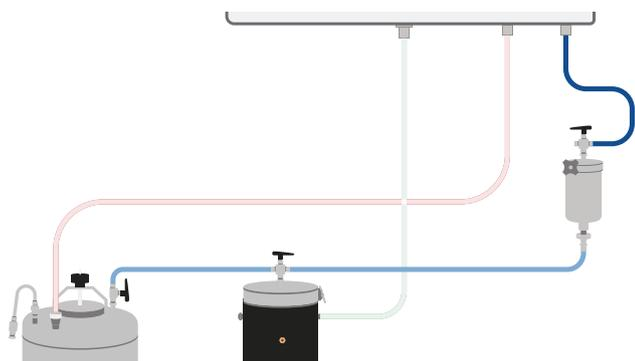
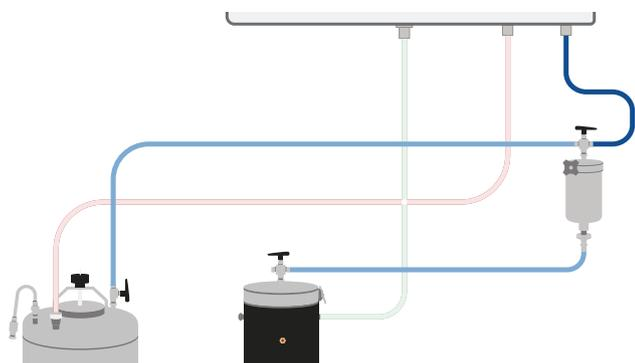

Figure 19. Liquid sample loading using a sample injection module (SIM).
Figure 20. Solid sample loading using a sample injection module (SIM).
A liquid sample or a solid sample that has been pre-adsorbed on silica can be loaded onto the equilibrated cartridge using a sample injection module (SIM); see Figure 19 and Figure 20.
2. If loading a solid sample, close the three-way valve on the radial compression module and disconnect the solvent tube connected between the solvent reservoir and the radial compression module from the module and connect it to the SIM; see Figure 20.